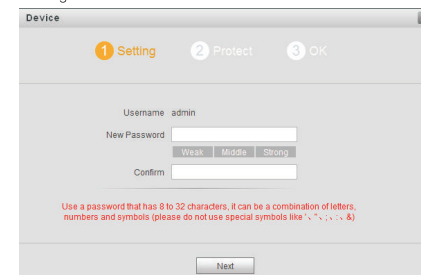

Figure 3-5
Step 1 Power on the device, and enter default IP address of VTO at the address bar of PC browser. The system displays "Setting" interface, as shown in Figure 3-5.